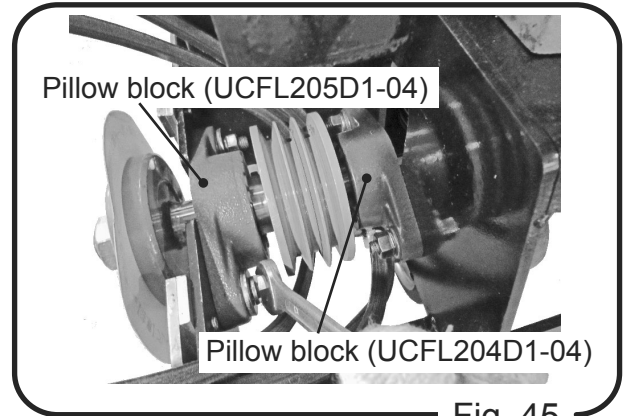

Fig. 45
6. Remove the pillow block (UCFL205D1-04) bolt (8X35) and nut M8 on the bleed side at two locations. Then, remove the pillow block (UCFL204D1-04) bolt (8X30) and nut M8 of the back side at two locations. (Fig. 45)